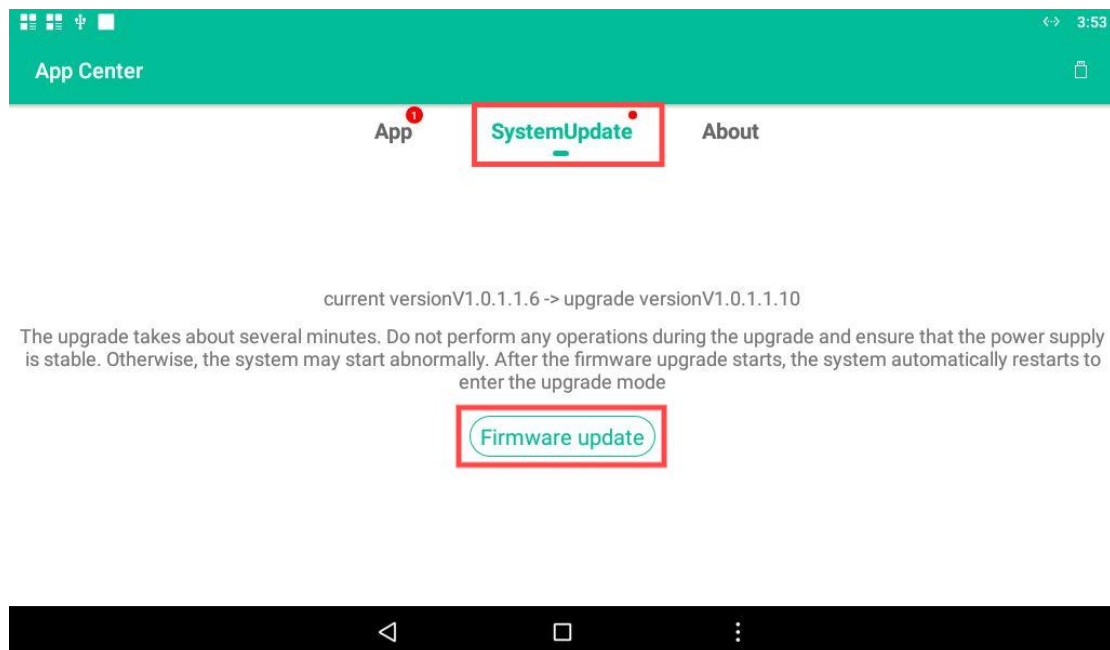

Figure 1-8
3. When the update package on the USB disk is updatable, can click "**Firmware update**" button, as shown in Figure 1-8, or drop down the status bar to see the upgrade prompt, click "**App Center**" prompt to upgrade, as shown in Figure 1-9. (Note: You cannot exit the App after clicking Upgrade, the system will be upgraded and restarted within a few minutes.)